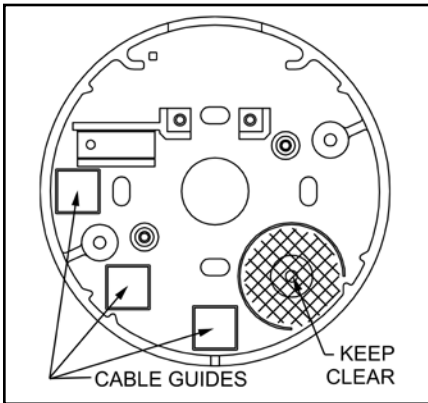

Figure 15 - Cable Guide Locators
4. Install at least one of the stick-on cable guides in an appropriate position to restrain the cables. (See Figure 15 for possible locations.)
- Depending on the thickness of the container, additional cable guides may be necessary to ensure the cables are held in place. Some possible locations are shown in Figure 15. Install additional guides as needed, and route the LCD and generator cables through them to ensure the cables do not get routed through the “KEEP CLEAR” area, over the Zebra connector, or near where the geared end of the dial hub will project through the dial ring cover.
- Align the dial ring cover with the dial ring so the generator will seat into the five o'clock position and the four aligning lugs align with the corresponding slots in the dial ring. (See Figures 15 and 16.)